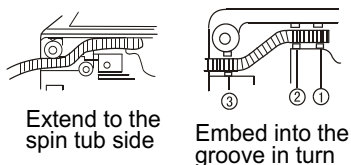

Figure 3
- Place the drain hose into the groove along the side of the spin tub in the direction of (1)~(3), towards the side of the spin tub. (See to Figure 3).